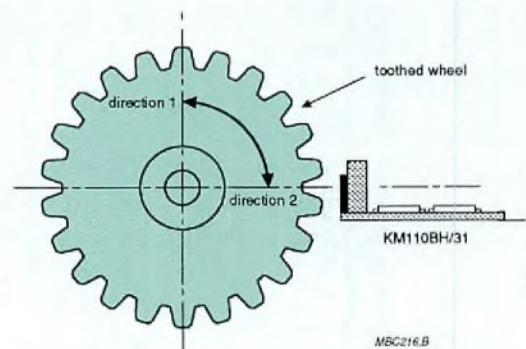

Fig.5 Optimum operating position
The sensor operates like a magnetic Wheatstone bridge measuring non-symmetric magnetic conditions such as when teeth or pins move in front of the sensor. The KM110BH/31 can sense this movement in two possible directions (shown in Fig.5), so the mounting position is very important for accurate measurements. Two types of mounting error affect the /31's performance:
- allowing an angle between the sensor's symmetry axis (the centre line in Fig.5) and that of the toothed wheel
- vertically shifting the sensor away from the optimum position shown in Fig.5.